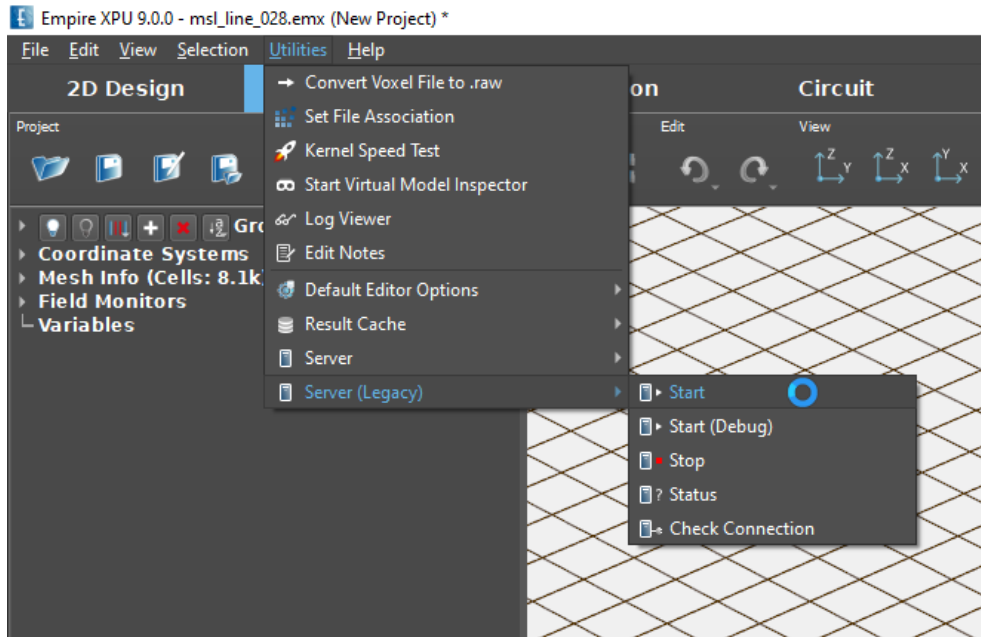

Figure 5.2.: Starting the EMPIRE XPU™ remote service from GUI
- Select **Server (Legacy) - Start**, see Figure 5.2